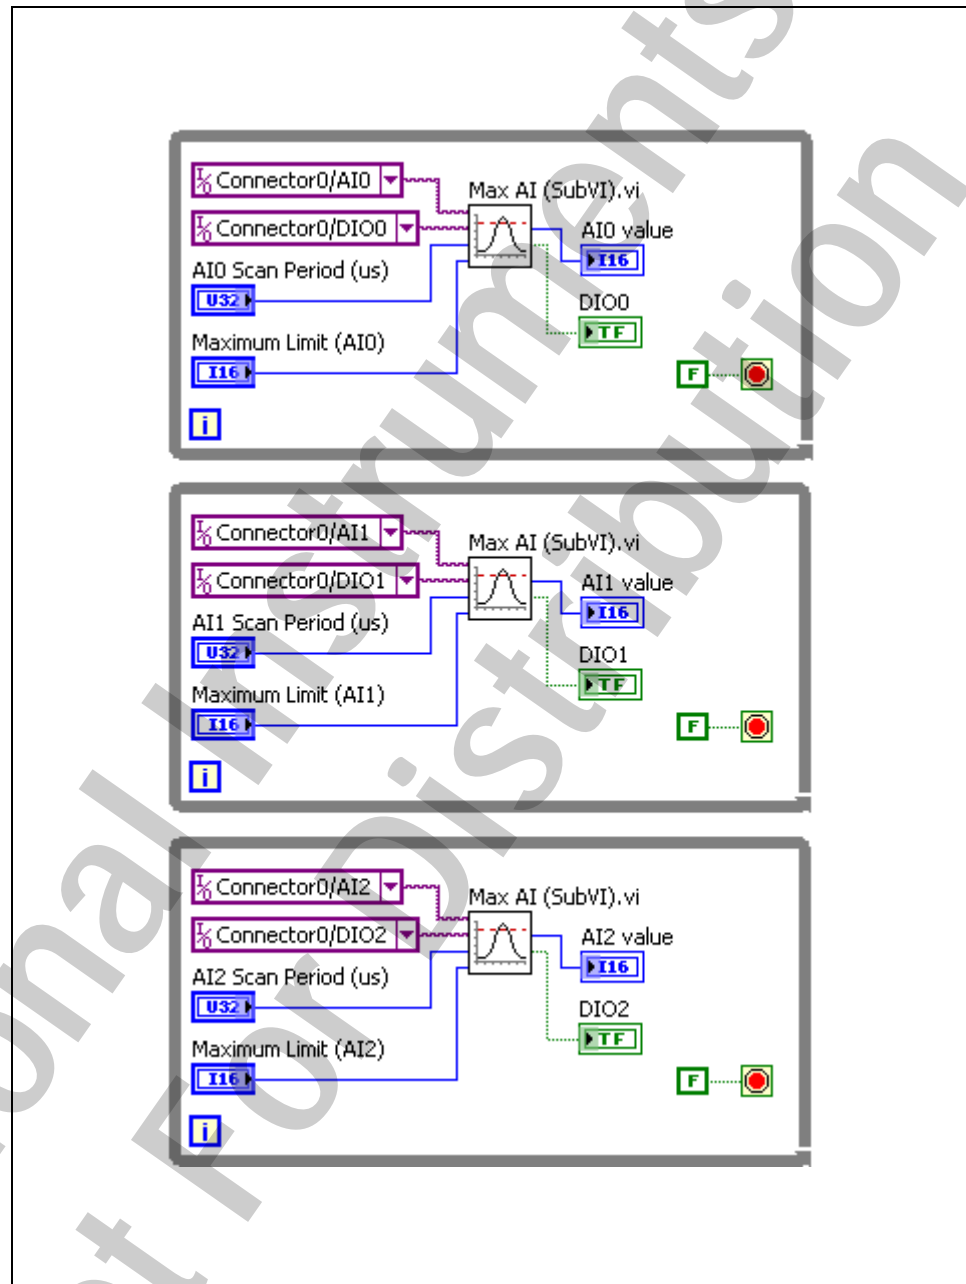

Figure 10-3. Multiple AI Monitor FPGA (Main) VI Block Diagram
12. Create the block diagram as shown in Figure 10-3 to monitor multiple analog input channels and control multiple digital output lines at multiple scan periods using the following items:
- ☐ Create the other two While Loops to match the constants, controls, and indicators shown in Figure 10-3.
Tip To create additional copies of the While Loop, you can copy the first While Loop and then change control and indicator names as shown in Figure 10-3.